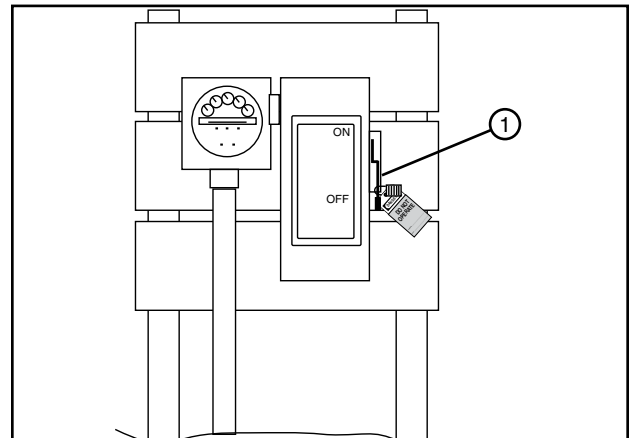

Figure 85-1 1. Public Power Service Disconnect
1. SHUT OFF and LOCK the public power service disconnect to the irrigation machine. See figure 85-1.
FILL OUT the blue (OSHA safety color code) tag and attach to the disconnect after locking. See figure 85-1.